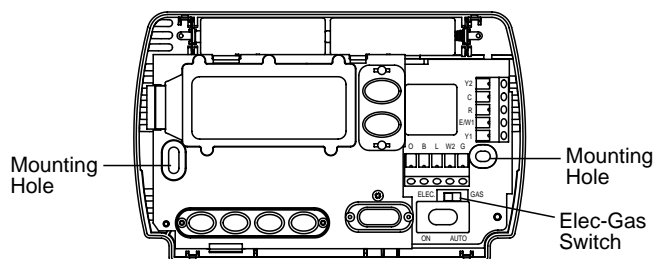

Figure 1 – Thermostat base
5. Fasten base loosely to wall, as shown in fig. 1, using two mounting screws. Place a level against bottom of base, adjust until level, and then tighten screws. (Leveling is for appearance only and will not affect thermostat operation.) If you are using existing mounting holes, or if holes drilled are too large and do not allow you to tighten base snugly, use plastic screw anchors to secure subbase.
If BATT is displayed, the batteries are low and should be replaced with fresh "AA" Energizer® alkaline batteries. To replace batteries, set system to OFF, install the batteries along the top of the base (see Fig. 1). The batteries must be installed with the positive (+) end to the left.